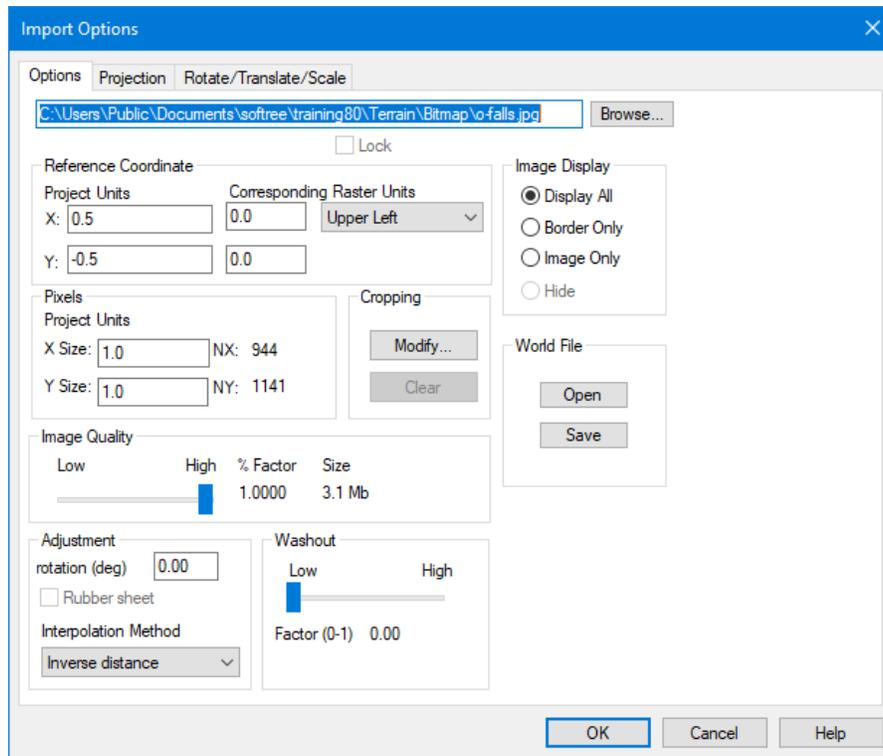

Figure 4-2: Image Import Options Dialogue (Used to Geo-Reference and Scale Bitmaps)
12. *Feature Tools* | *Feature Properties* to open the *Image Import Options* dialogue box, as shown in Figure 4-2 above.